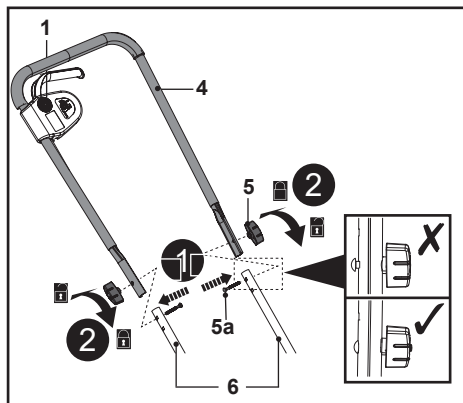

Fig. 2
2. Pass the mounting bolt (5a) through the mounting holes to the end (Fig. 2, step 1).
3. Secure the upper handle bar (4) with the lower handle bars (6) by turning the lock knob (5) clockwise on the thread of the mounting bolt (5a) for tightening (Fig. 2, step 2).
4. Make sure the control cord (16) run on the upper side of the upper handle bar (4) and the lower handle bar (6).